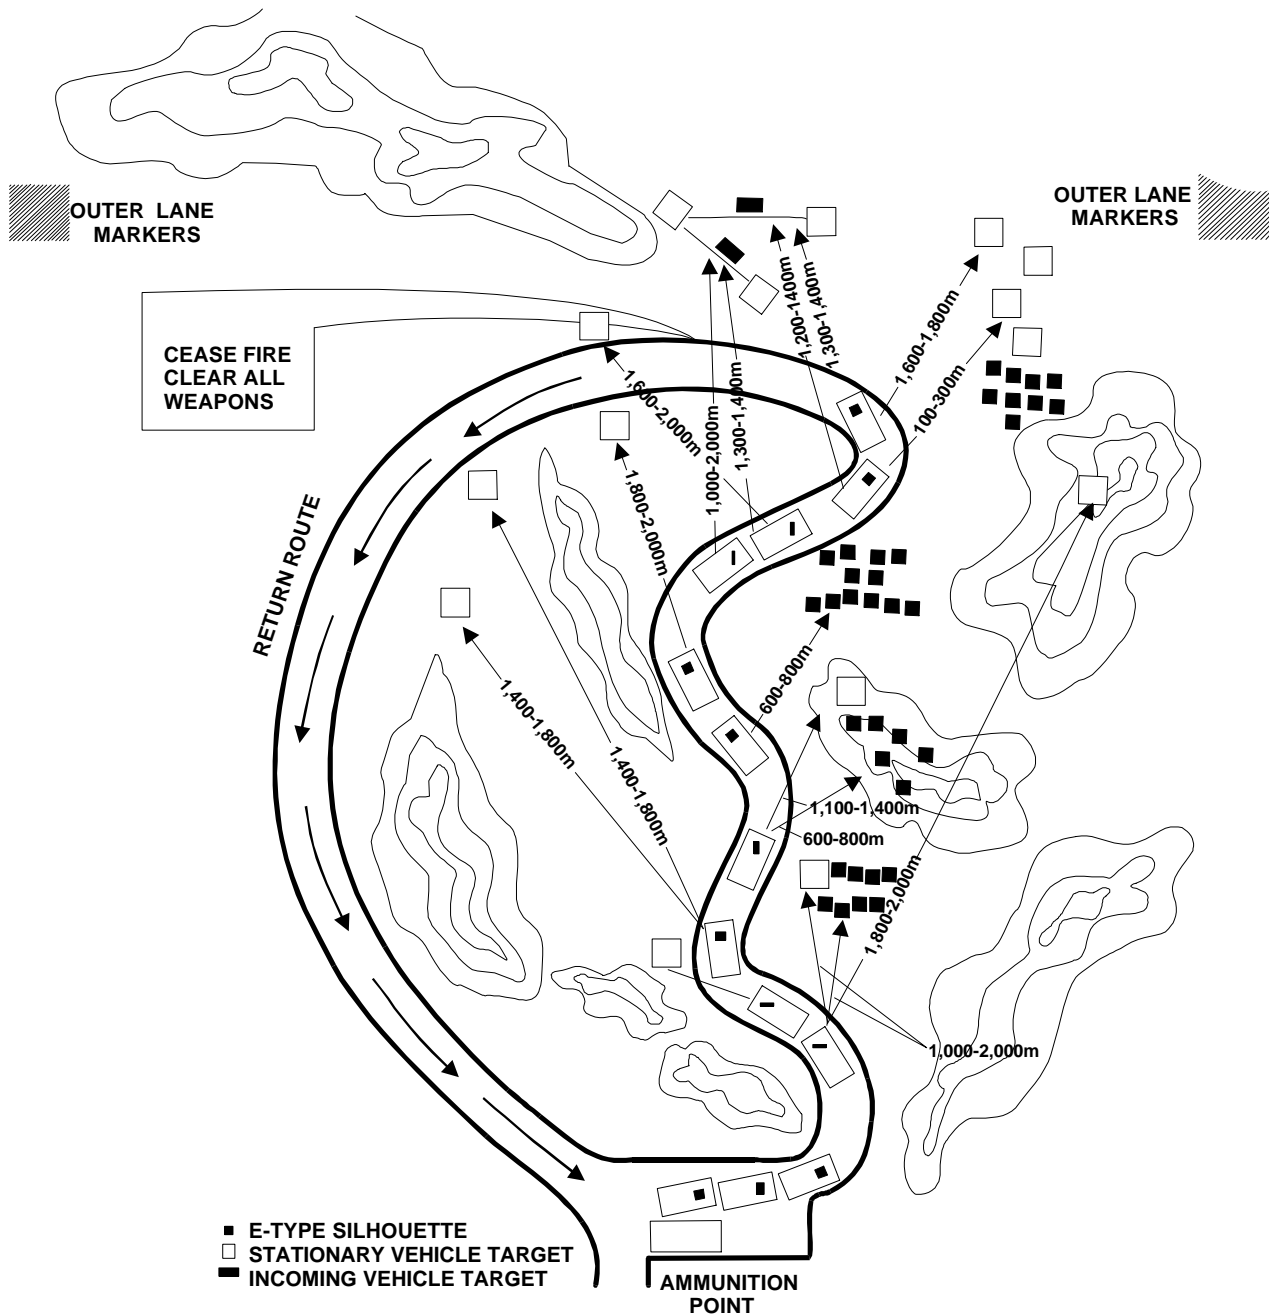

Figure 10-3. Sample Layout of an LAV-25 Moving Range.
(2) Moving ranges have a maneuver box not found on stationary ranges. (See fig. 10-3.) If course roads are available within the training area, they should be used. The vehicle commander should also use available terrain for masking the vehicle's position. Master gunners frequently have to modify maneuver boxes based on what type of engagement is fired. Maneuver boxes are used to allow the vehicle crew to acquire, range, and destroy targets arranged in a realistic array as outlined on appropriate gunnery tables. The maximum distance the vehicle could travel and still have the target exposed is the length of the maneuver box. Maneuver boxes must be clearly defined and adhered to (start and stop points). This area never extends or surpasses the exposure and engagement times because surface danger